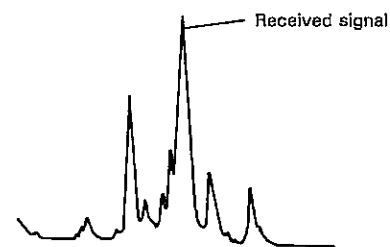

Figure 4. Electric wave distribution observed during signal reception
- 3) When \blacktriangle has been properly set, turn the CAL marker switch of the TS-950 to OFF to prepare for signal reception. Electric wave distributions such as that in Figure 4 can be observed.